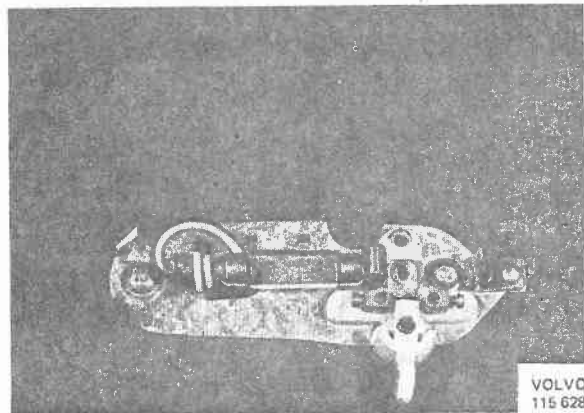

Fig. 35-12. Bulb
2. Remove the bulb and fit the new one, Fig. 35-12.